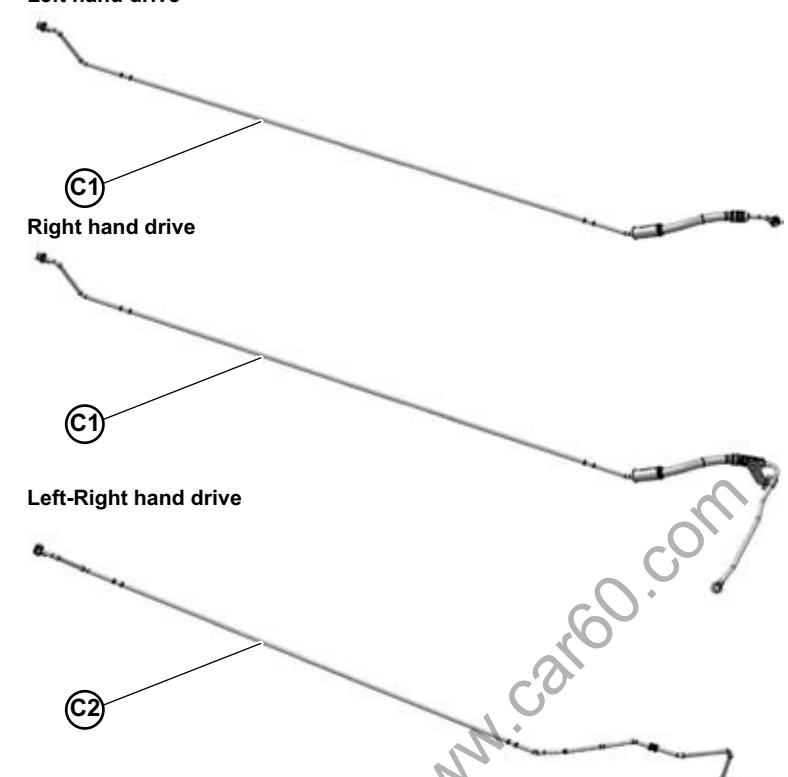

Fig.21
7. Remove and extract the **C1** and **C2** power steering circuit pipes (Fig.21).